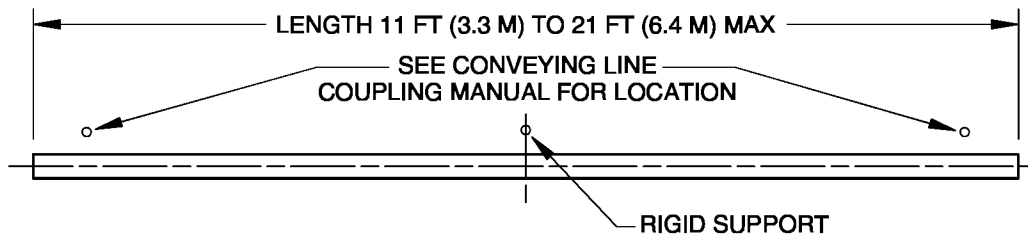

Fig. 5
All conveying line longer than 11 ft (3.3 m) with compression coupling connections should be supported rigidly in three (3) places (see Fig. 5).